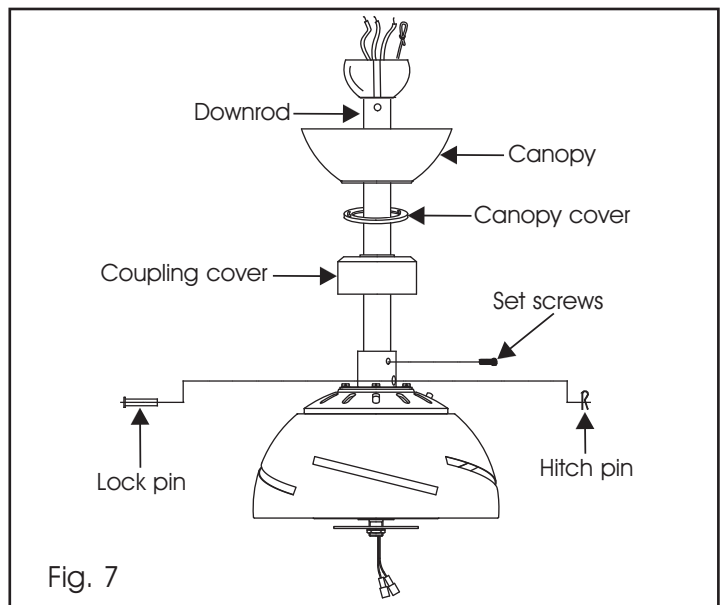

Fig. 7
Step 6. Route wires and safety cable exiting from the top of the fan motor through the collar cover, canopy cover, canopy and then through the ball / downrod. (Fig. 7)
Step 7. Align the holes at the bottom of the downrod with the holes in the collar on top of the motor housing. (Fig.7) Carefully insert the hanger pin through the holes in the collar and downrod. Be careful not to jam the pin against the wiring inside the downrod. Insert the locking pin through the hole near the end of the hanger pin until it snaps into its locked position. (Fig. 7)
Step 8. Tighten two set screws on top of the fan motor firmly. (Fig. 7)